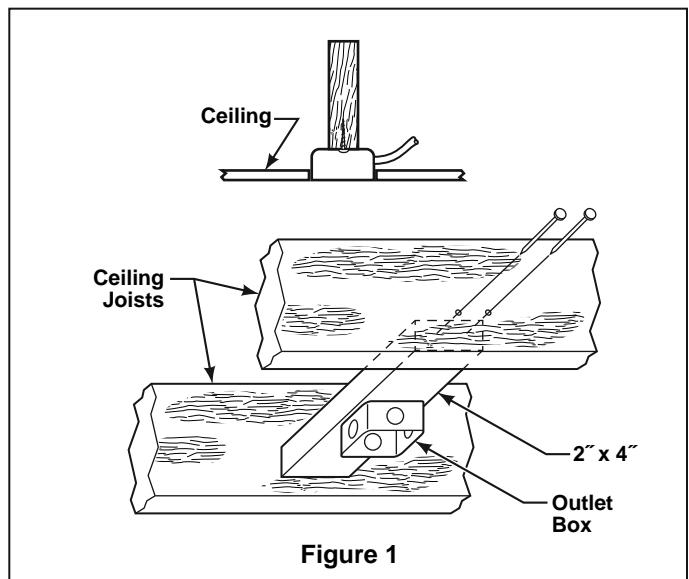

Figure 1
NOTE: If you are uncertain of part description, refer to exploded view illustration. (Figure 1, page 13)
Your new ceiling fan will require a grounded electrical supply line of 220-240 volts AC, 50 Hz circuit. The outlet box must be securely anchored and capable of withstanding a load of at least 50 lbs. **Figure 1** depicts different structural configurations that may be used for mounting the outlet box.
1. Remove the Hanger Ball by loosening the setscrew in the Hanger Ball until the ball falls freely down the Downrod. (Figure 1) Remove the Pin from the Downrod, then remove the Hanger Ball. Retain the Pin and Hanger Ball for reinstallation in Step 5.
5. Reinstall the Hanger Ball (Figure 1) on the Downrod as follows. Route the three 80" wires and cable through the Hanger Ball. Position the Pin through the two holes in the Downrod and align the Hanger Ball so the Pin is captured in the groove in the top of the Hanger Ball. Pull the Hanger Ball up tight against the pin. **Securely tighten the setscrew in the Hanger Ball.** A loose setscrew could create fan wobble.
The fan must be hung with at least 7' of clearance from floor to blades (Figure 1)